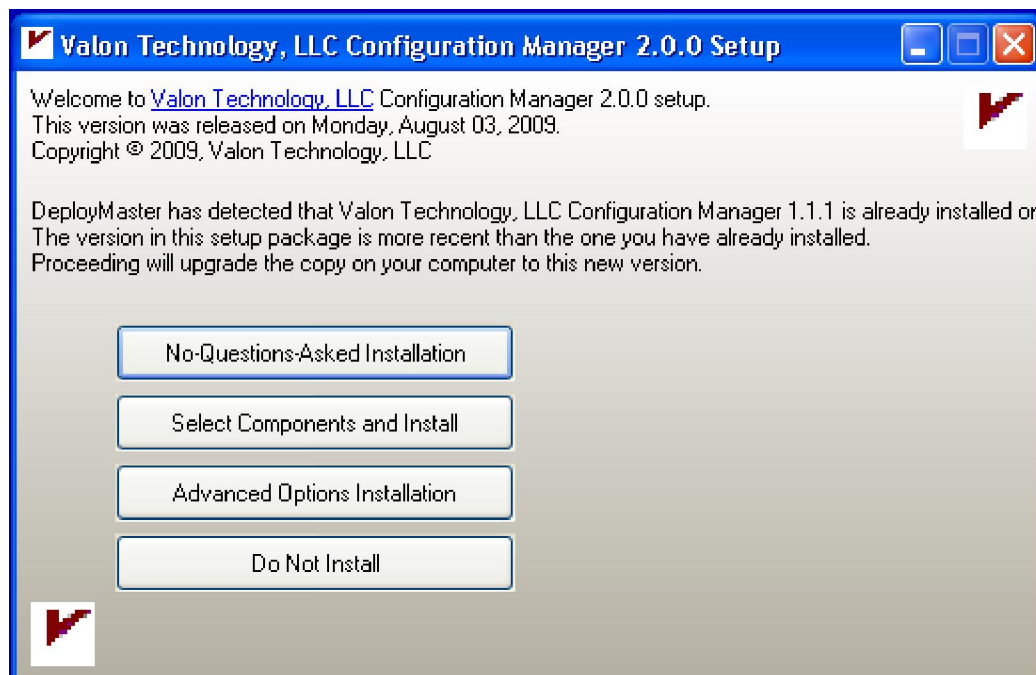

Figure 2-1 Installation Options Window (the revision shown may be and probably is different than the current
- b. Click on the "**setup.exe**" file. The installation program will start by displaying the **Installation Options Window** as shown in Figure 2-1 below.